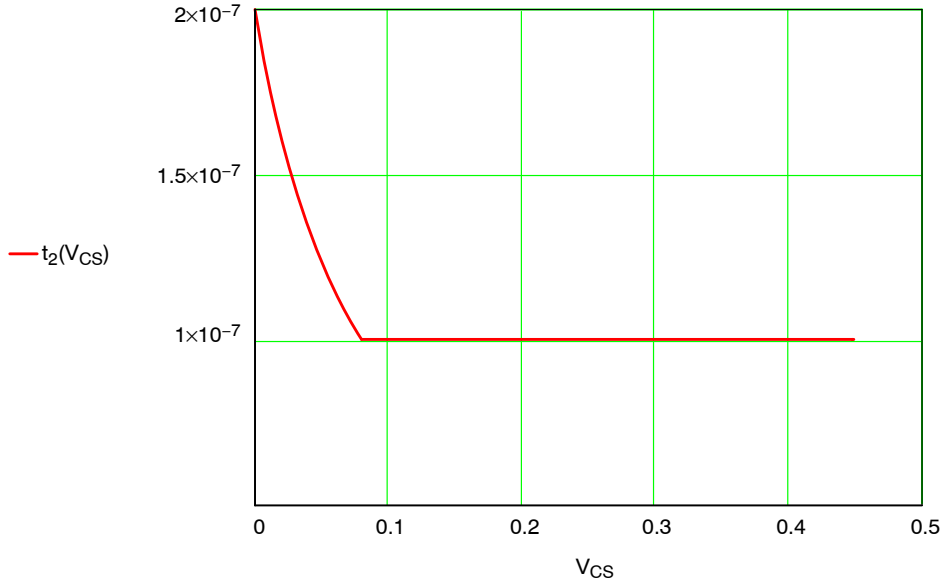

Figure 28. The Dead Time Evolution with the Sensed Current
If we plot (18) using Mathcad as V_{CS} varies from 0 to 0.45 V, we obtain Figure 28 graph: